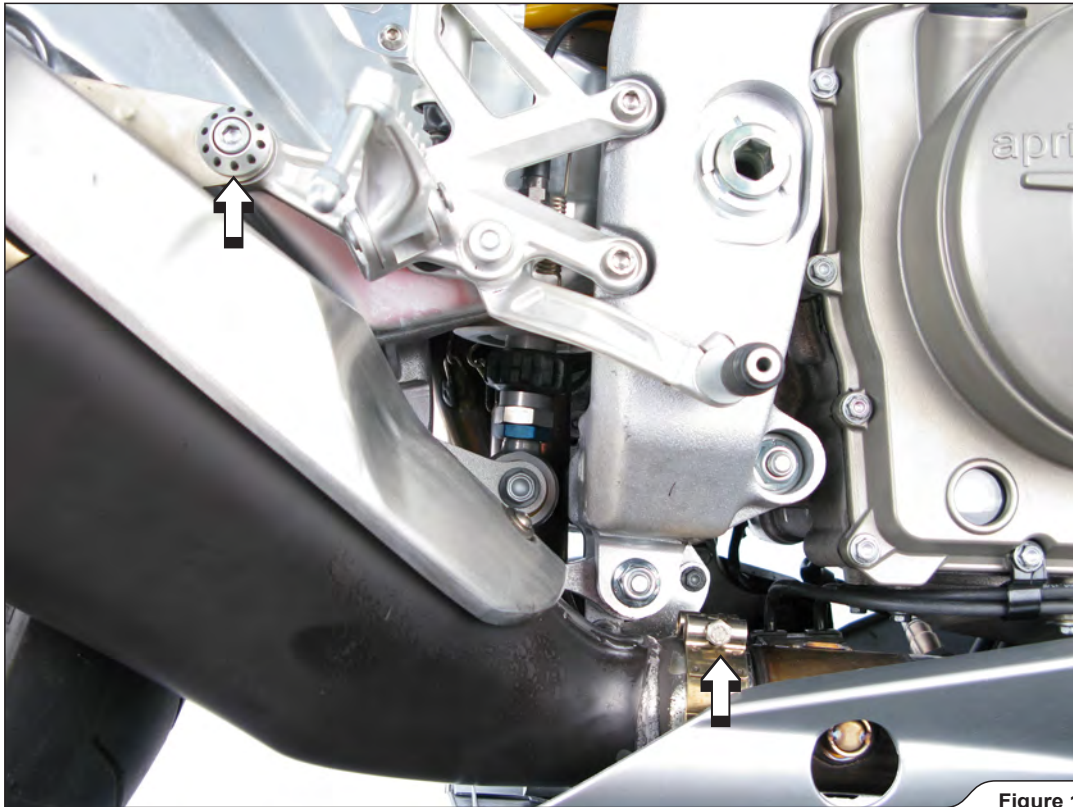

Figure 1
2. Unscrew the marked bolts from the muffler hanging bracket, the metal clamp at the muffler link pipe-collector connection and lower muffler bracket (**Figure 1, 2**). Remove the muffler.